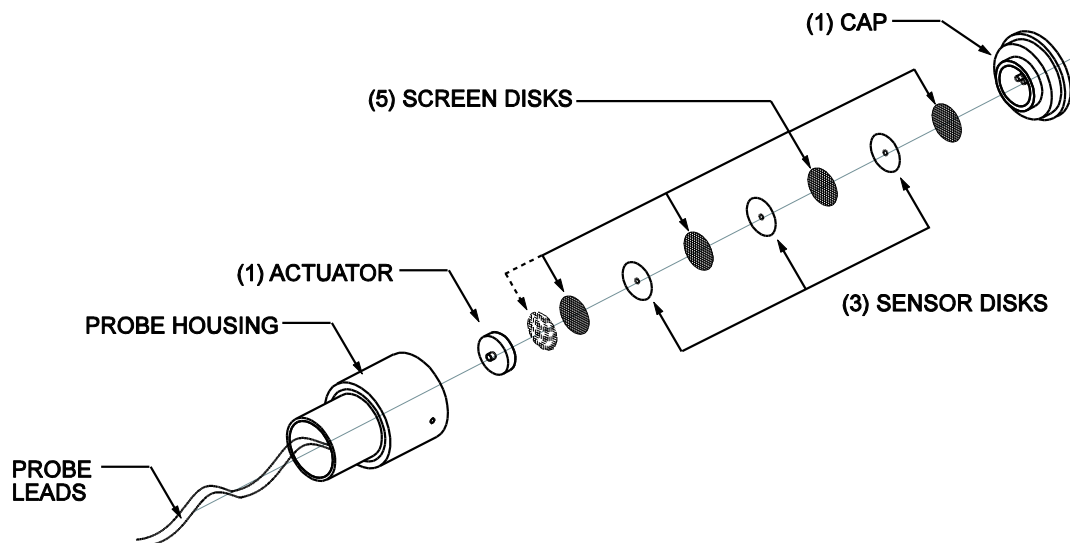

Figure 21
3. Figures 19 and 20 show the recommended installation procedures. Figures 21 thru 25 show typical probe installations. Install the probe and use electrical conduit and/or watertight cord grips, as necessary, to prevent water entry where the probe twin lead penetrates the monitored area. If the probe leads length is longer than 5' and the probe is installed in the first 800' of a system, plastic conduit should be used instead of metal conduit. The cord grip (part # 8057950) with the oval opening in the bushing is used with the twin lead cable. The cord grip (part # 8057954) with the round hole is for the jumper cable.
The replacement sensor package consists of 8 disks: 5 screen disks and 3 sensor disks as shown in Figure 21. The replacement package includes all removable parts: probe cap, sensor elements, and actuator. Replacement sensor elements only can also be purchased.
6. Reassemble the switch. Carefully alternate the 4 screens and 3 sensor disks in the cap as shown in Figure 21. Place the actuator on top of the top screen. The actuator has a small point in the center of one side that must face the probe housing as shown. Hold the probe housing vertically and screw the cap finger-tight into the bottom of the housing.